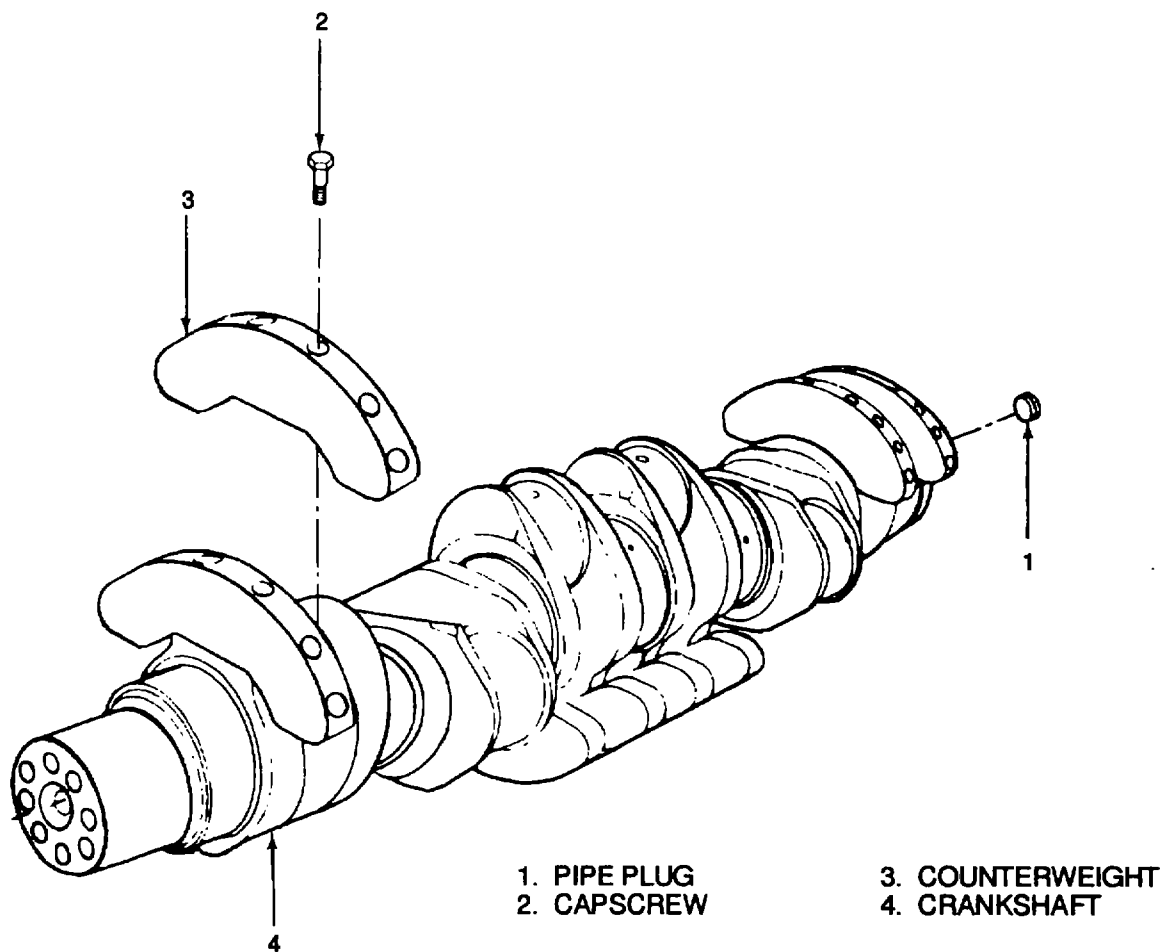

Figure 9-38. Disassembly and Assembly of Crankshaft
- (1) If defective, remove the crankshaft gear in accordance with paragraph 9-18.
- (2) Remove the pipe plugs (1, Figure 9-38) from the crankshaft oil galleries.
- (3) Number and match-mark the counterweights (3) to the crankshaft so that they may be assembled in the same position as removed.
- (4) Remove the capscrews (2), and remove the counterweights (3), using a soft hammer.